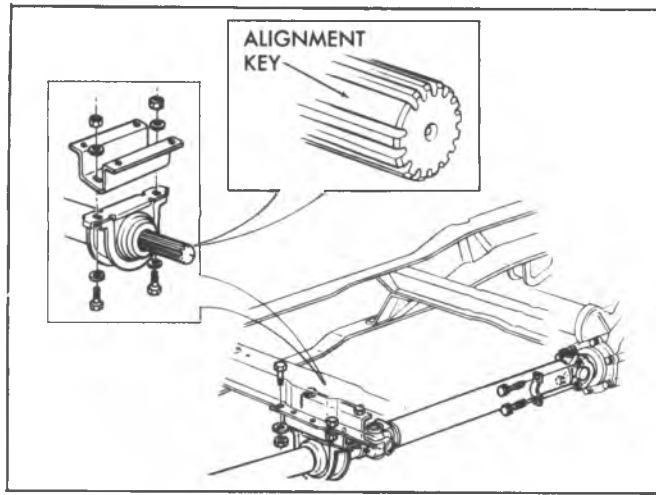

Fig. 4A-18--Alignment Key
**G and K models with 16 splines** must be phased as shown in figure 4A-19.